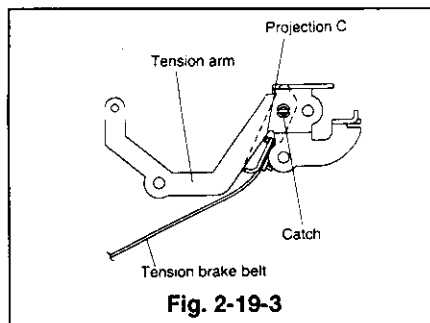

Fig. 2-19-3
- 6 Reverse the tension arm, unfasten the catch with a tweezers as shown in Fig. 2-19-3 to remove the tension brake belt.
- 1 Insert the catch in the position of the tension arm as shown in Fig. 2-19-3 to fasten the tension brake belt on the tension arm. (Take care not to let projection C, next to the catch of the tension brake belt touch the tension arm.)